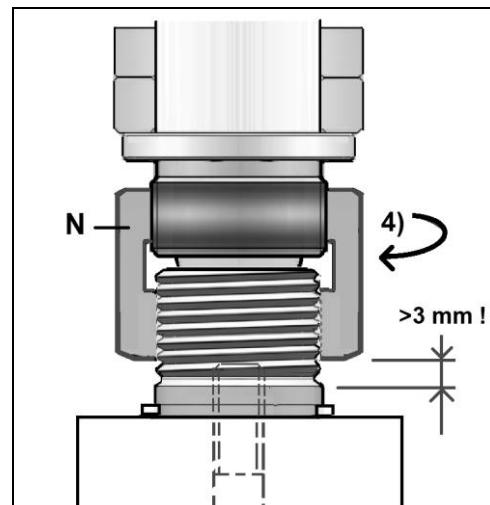

**Fig 12**
3) Place the draw bar (D, Fig 12&13) into the bottom of the spindle and tighten it with the supplied spanner.
The draw bar (D, Fig 12&13) must be removed first.